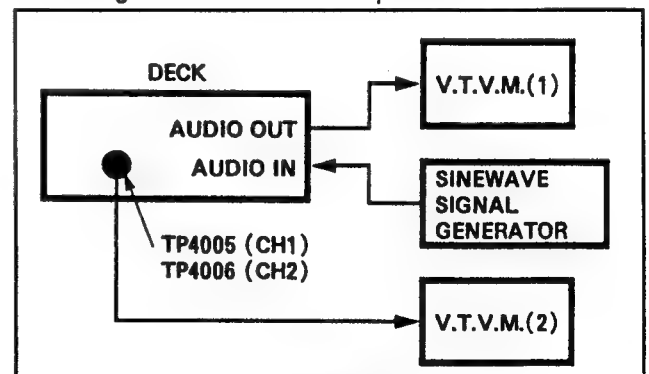

Figure E27
2. Connect the V.T.V.Ms to the deck as shown in Figure E27. Note that only one channel will be adjusted at a time.
5. Adjust VR4005 (CH1) so that V.T.V.M. (2) reads approximately 0.5Vrms (1.41Vp-p).
6. Playback the recorded portion, and note the amount of difference between V.T.V.M. (1) and (2).